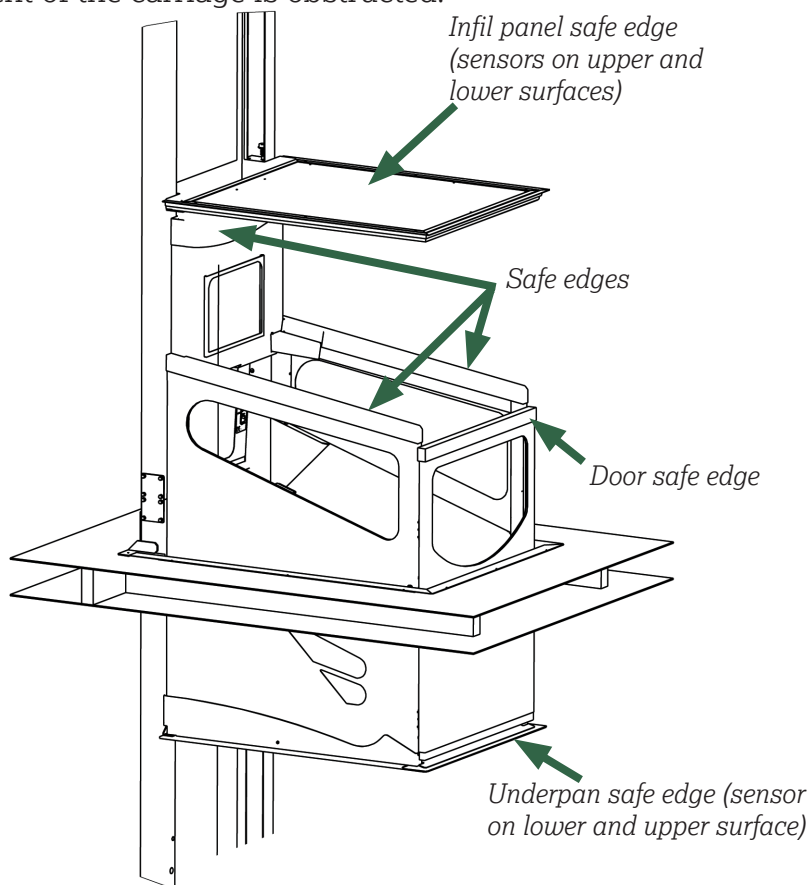

Figure 1. lift shown part-way through aperture
The diagram below (*Figure 1*) shows the position of all the sensors on the lift, designed to prevent injury or damage if the movement of the carriage is obstructed.
- Something obstructing the travel of the car or infill panel safe edge causing one or more of the sensors or safe edges (Figure 1) to operate and therefore preventing travel in the appropriate direction.